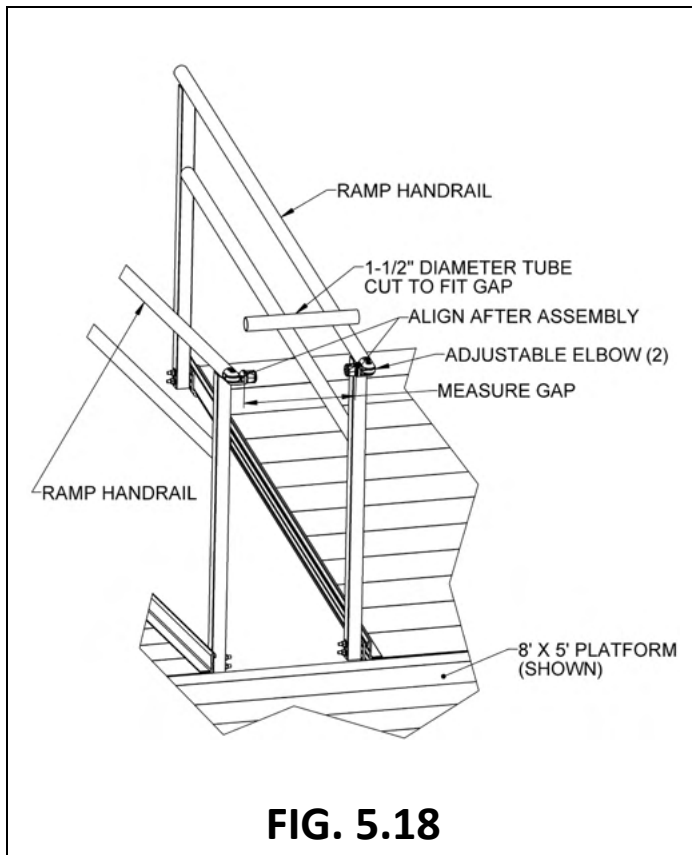

FIG. 5.18
- 5.7.2. Regardless of style, first connect the ramp handrails by installing adjustable elbows in the ramp handrails. Loosen the elbow assembly screws and position the adjustable elbows so they are aligned with the elbow on the opposite side (but do not tighten), and then measure the distance between the two larger round faces (FIG. 5.18).
- 5.7.3. Cut a 1-1/2" diameter round tube to the measured gap (FIG. 5.18).